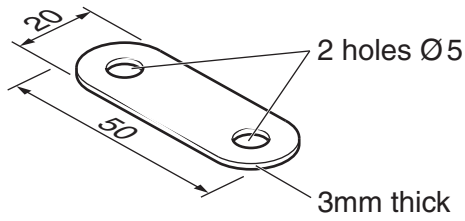

Fig. 1a
- 2 Fig. 1a shows a part of a simple linkage.
- (a) Complete the table below by giving the stages needed to make the part shown in Fig. 1a.
(b) The part shown in Fig. 1a is to be made in large numbers and a jig will be used when drilling the holes.